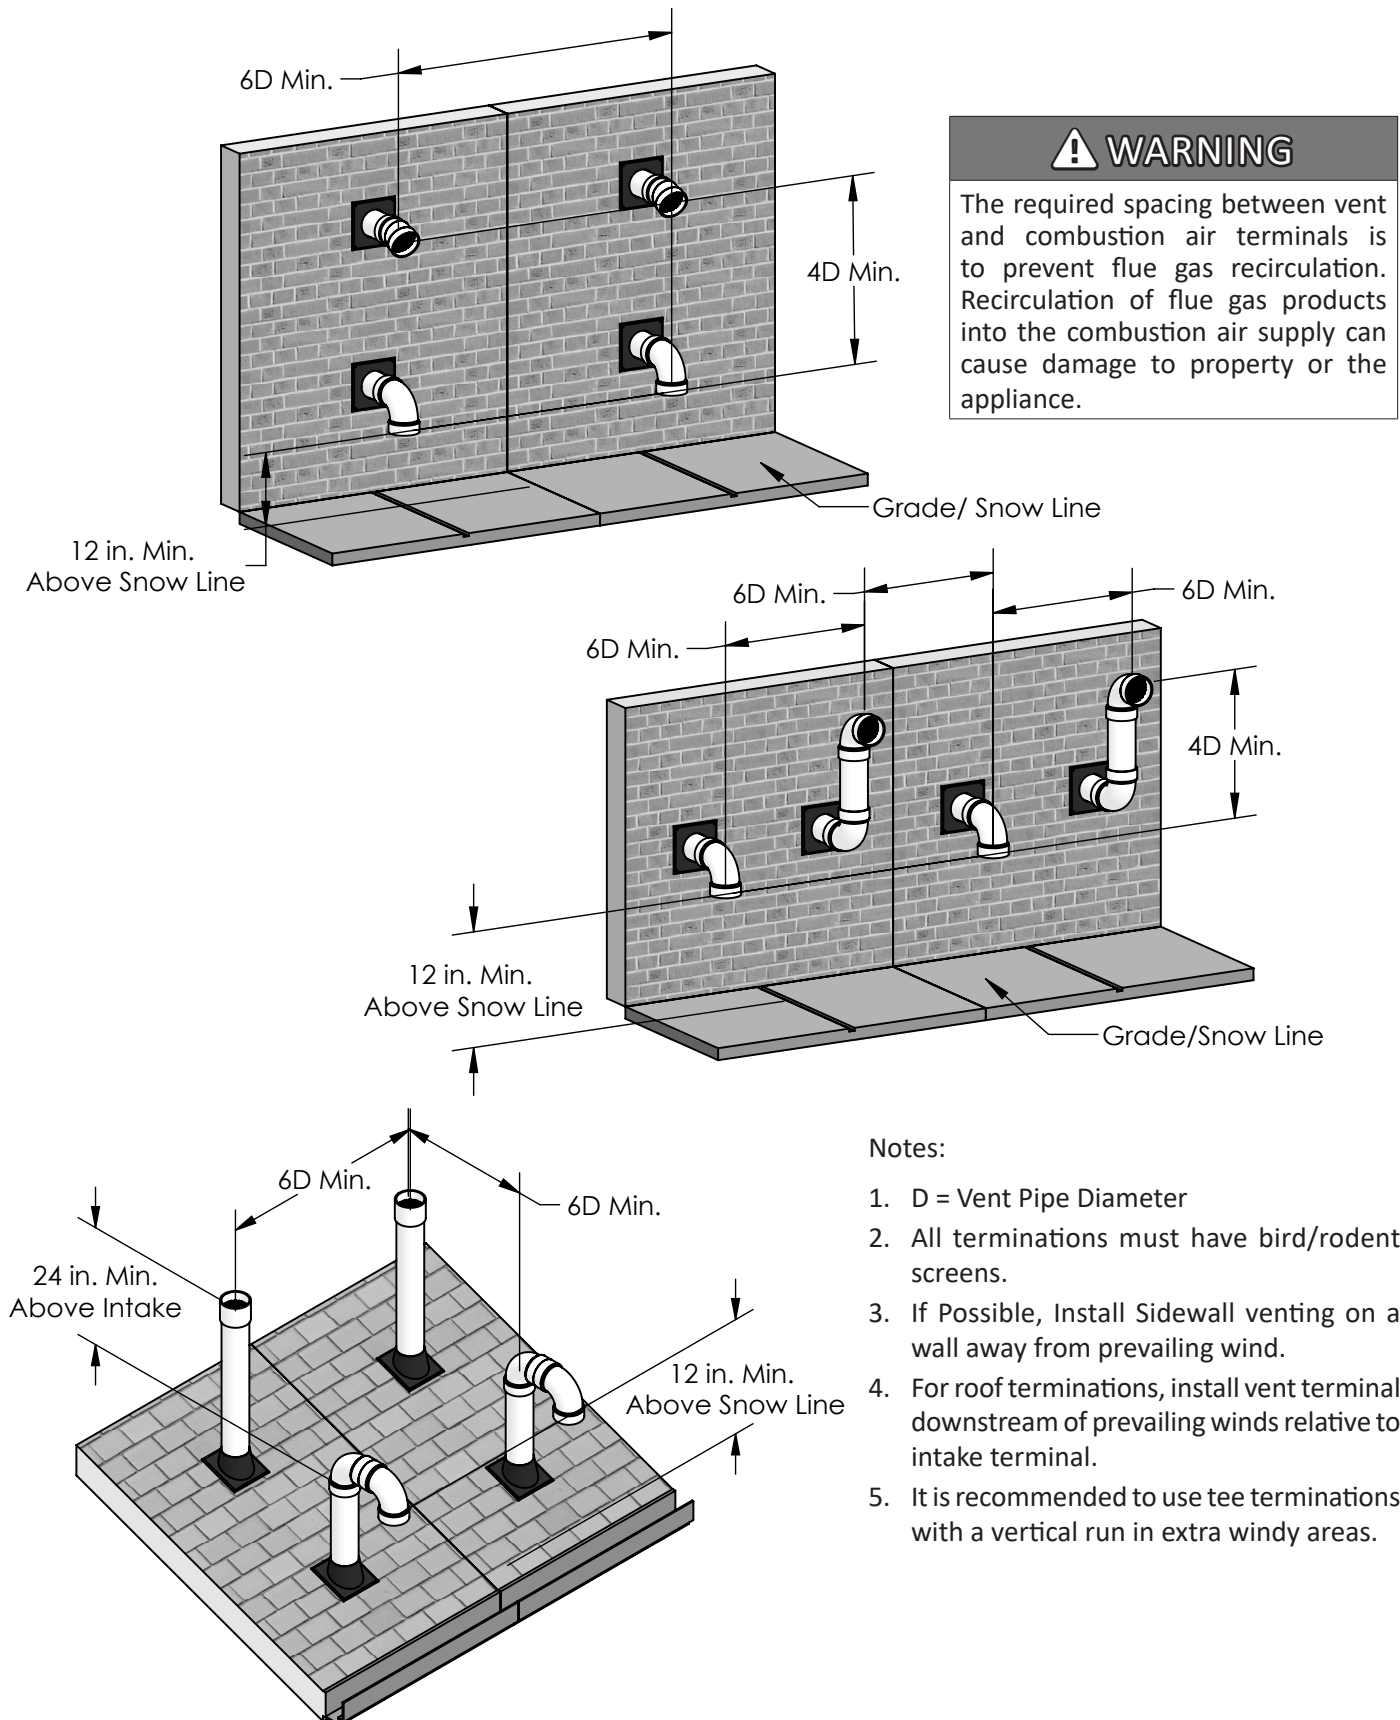

Figure 12: Multiple Appliance Direct Vent Termination
- Multiple appliance vent terminations are shown in Figure 12.
- Multiple appliance combustion air terminations are shown in Figure 12.